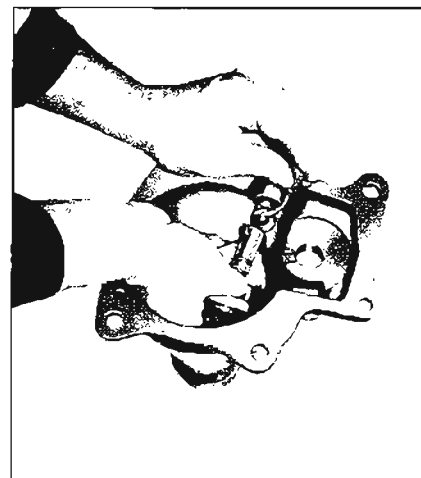

Figure 4-54—Installing Reverse Shifter Shaft
5. Place detent ball on spring and, holding ball down with a suitable tool (see Figure 4-54), push the shifter shaft into place and turn; the ball drops into place in detent on shaft detent plate.